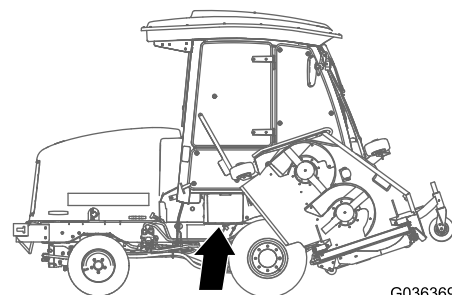

Figure 96
1. Open the battery cover on the side of the shroud (Figure 96).
Note: Press down on the flat surface above the battery cover to ease the removal of the cover (Figure 96).